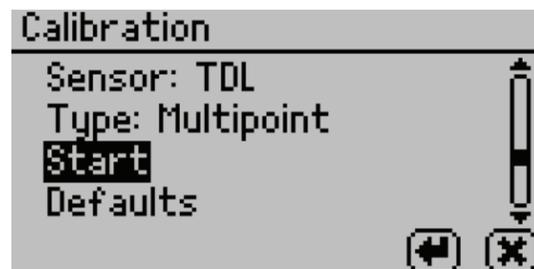

Figure 52 TDL sensor calibration screen
- Select **Calibration** from the Configuration tab (Figure 52).